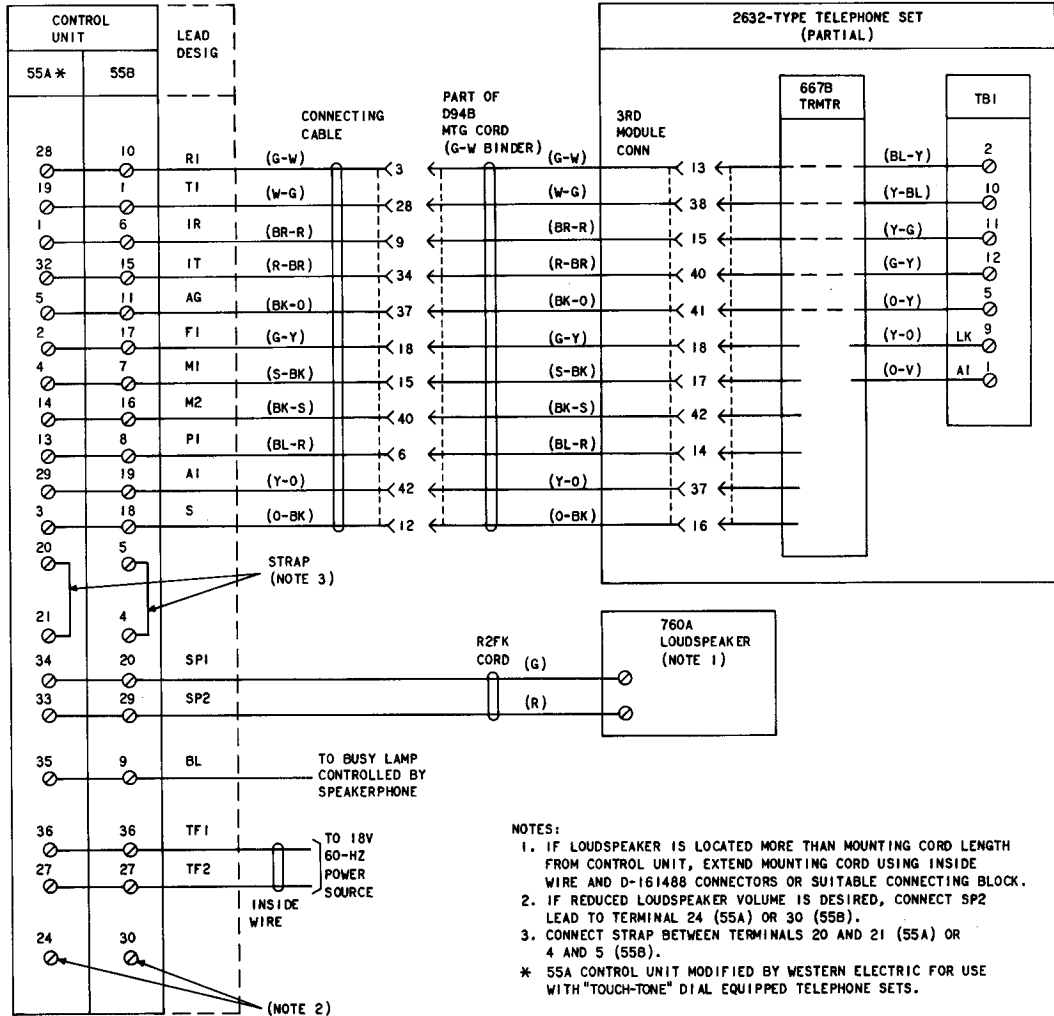

Fig. 3—2632-Type Telephone Set, Connections to 3-Type Speakerphone System
- (1) Remove telephone set faceplate, mat, and housing. See Section 502-600-100 for procedures.
- (2) Remove key unit or apparatus blank in right-hand module position and plug in a 667B transmitter (ordered separately).
- (3) Connect transmitter spade-tipped leads as shown in Fig. 1 for 632-type, Fig. 2 for 1632-type, and Fig. 3 for 2632-type.
(4) If a 632-type set is equipped with 8R dial, replace with 8C dial (ordered separately).
(5) Install housing using reverse procedure.
(6) Install new faceplate and mat (ordered separately) in which transmitter cutouts are provided.